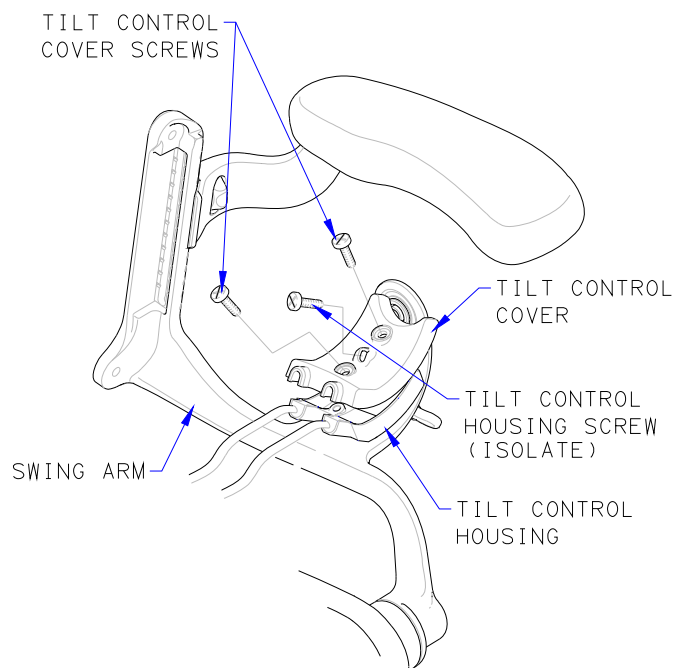

FIGURE 10
7. USING #2 PHILLIPS HEAD SCREWDRIVER, REMOVE AND SET ASIDE SCREW FASTENING TILT CONTROL TO SWING ARM. KEEP THIS SCREW ISOLATED FROM ALL OTHER HARDWARE WHILE UNDERGOING THIS PROCEDURE. SEE FIGURE 10.
8. USING #2 PHILLIPS HEAD SCREWDRIVER, REMOVE AND SET ASIDE (2) SCREWS FASTENING TILT CONTROL COVER TO TILT CONTROL HOUSING. SET ASIDE TILT CONTROL COVER. SEE FIGURE 10.
14. INSTALL TILT CONTROL COVER ON TILT CONTROL HOUSING AND SECURE WITH (2) SCREWS. SEE FIGURE 10.
15. SECURE TILT CONTROL TO SWING ARM WITH SCREW. SEE FIGURE 10.